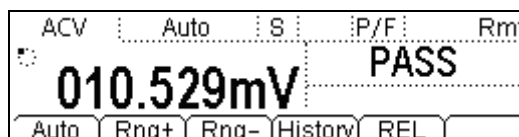

Figure 3-11 P/F Test result
(3) Press ON to start P/F testing. As shown in Figure 3-11, The test result is "PASS" as the measured value is between 0V and 1V.